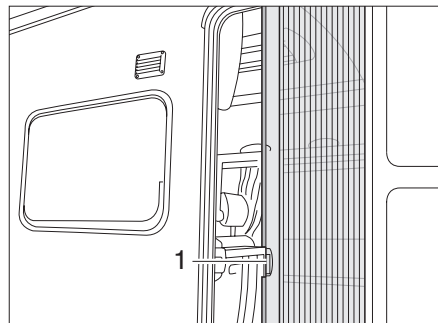

Fig. 27 Insect screen
- Pull out the insect screen completely by the handle (Fig. 27,1).
- Slide back the insect screen by the handle (Fig. 27,1).